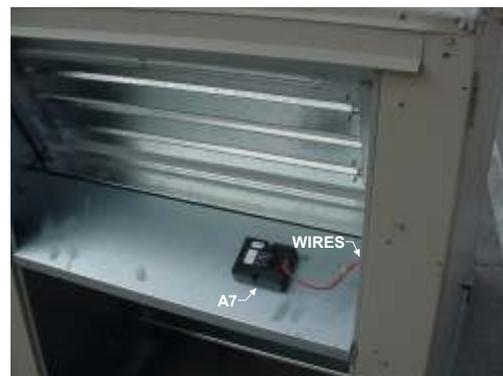

Figure 3
5. The economizer may use an A7 enthalpy sensor located on the division panel between the economizer outdoor air and return air dampers. If present, the sensor must be moved to the intake air section of the ERS. Disconnect sensor A7 wires from logic module, remove screws securing the sensor, and retain sensor assembly and screws. See Figure 3.